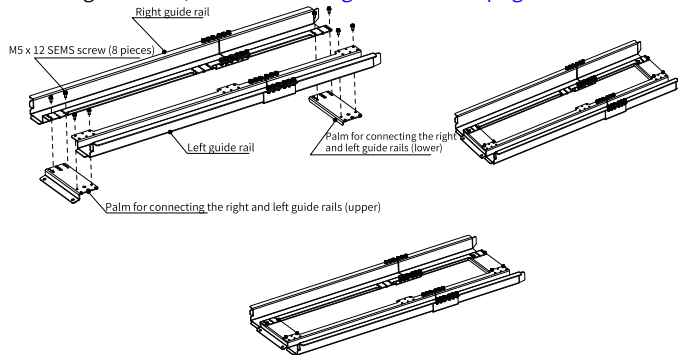

Figure 1-11 Assembling guide rails
a. Assemble the guide rails, as shown in *"Figure 1-11 " on page 22 .*